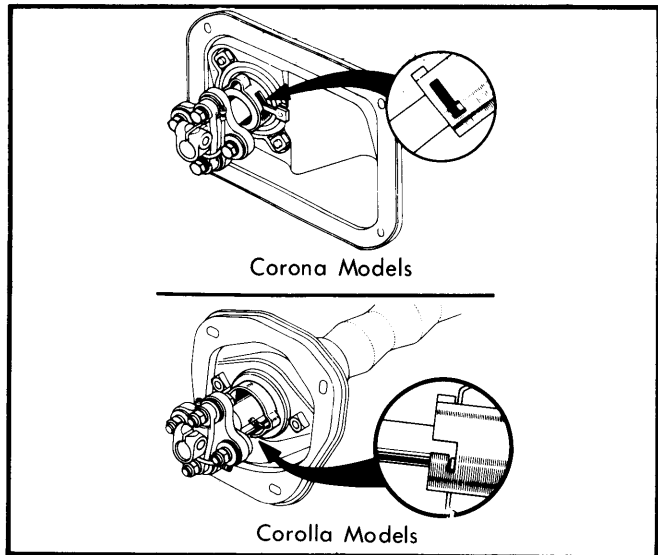

Fig. 3 Proper Installation of Steering Column Locating Pin
**Installation** – Working from inside passenger compartment, insert steering column assembly through column hole in firewall. Align index marks made during removal and tighten pinch bolt. Fit break-away bracket, but leave bolts finger tight. Position column hole cover in place with a new "O" ring seal. Push in column tube until fully seated, then tighten nuts mounting break-away bracket. Make sure hole cover locating pin contacts cover as shown in Fig. 3.